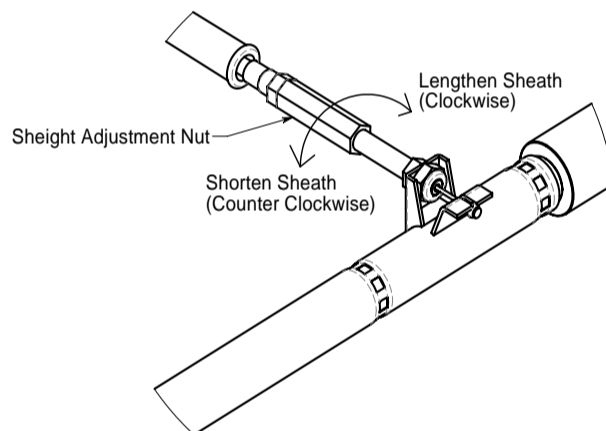

Figure 14.41: T50 Adjusting Cable Tension
1. If the chair does not tilt when the trigger is pulled – the cable wire is too loose and needs to be tightened. To do this, the cable wires height has to be lengthened. This adjustment is made by the height adjustment nut, as illustrated in Figure 14.41. Rotate the adjustment nut clockwise lengthening the sheath and thus tightening the cable wire.
2. Check tilt function and if acceptable tighten the height adjustment jam nut (Figure 14.41), securing the cable tension in place.